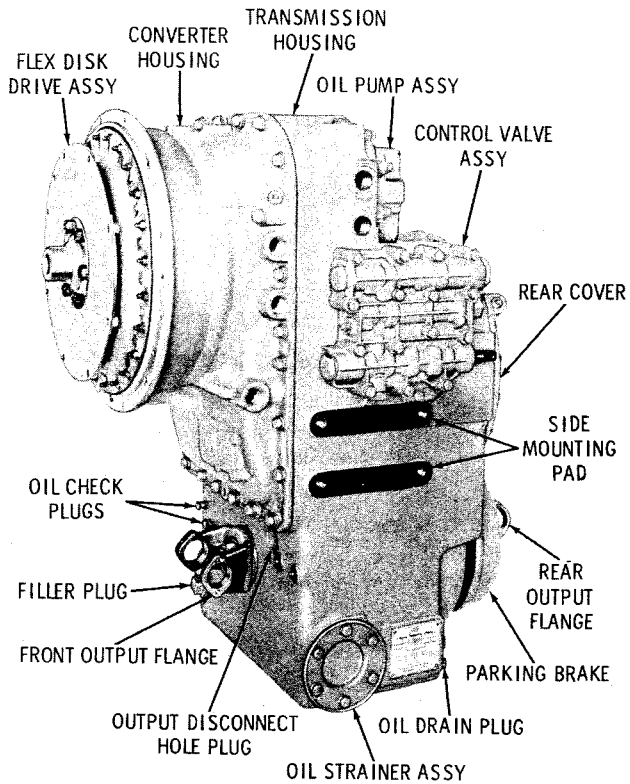

Fig. 1-1. Model TT 2221-1 (or TT 2421-1) transmission equipped for direct-mount installation—left-front view
Figures 1-1, 1-2, and 1-3 are representative of the model configurations covered in this manual. The various features available for these models are discussed, and the function and operation of the hydraulic systems and torque paths are explained. Wear limits information, parts inspection procedures, and torque specifications also are included.
(1) Control valve body assembly 5 is mounted on the left side of the transmission housing (fig. 1-1). The significant components contained within the valve body are main-pressure regulator valve 8 (B, foldout 9), trimmer plug 16, range selector valve 27, and either a clutch cutoff valve 20 or an inching control valve 40.
(2) The clutch cutoff valve may be either pneumatically or hydraulically actuated (by air or hydraulic brake pressure). When the vehicle brakes are applied, the valve releases the transmission drive clutch. Thus, when the vehicle is brought to a stop by the brakes, the power-driven pumps may be controlled by opening the throttle without having to shift to neutral. The inching control is manually operated and allows the drive clutch to slip while "inching" or maneuvering in confined areas.
(3) Linkage connects the range selector valve (and inching control valve, if used) to the operator's manual controls. A brake pressure line connects the clutch cutoff valve to the vehicle brake system.
l. Housings (fig. 1-1). The torque converter housing is cast aluminum, and the transmission housing is cast iron. The front cover is cast iron. The rear cover may be either cast iron or aluminum. The lower part of the transmission housing serves as an oil sump. Openings in the transmission housing provide for installation of external piping, oil check plugs, breather, drain plug, oil filler tube and oil strainer.